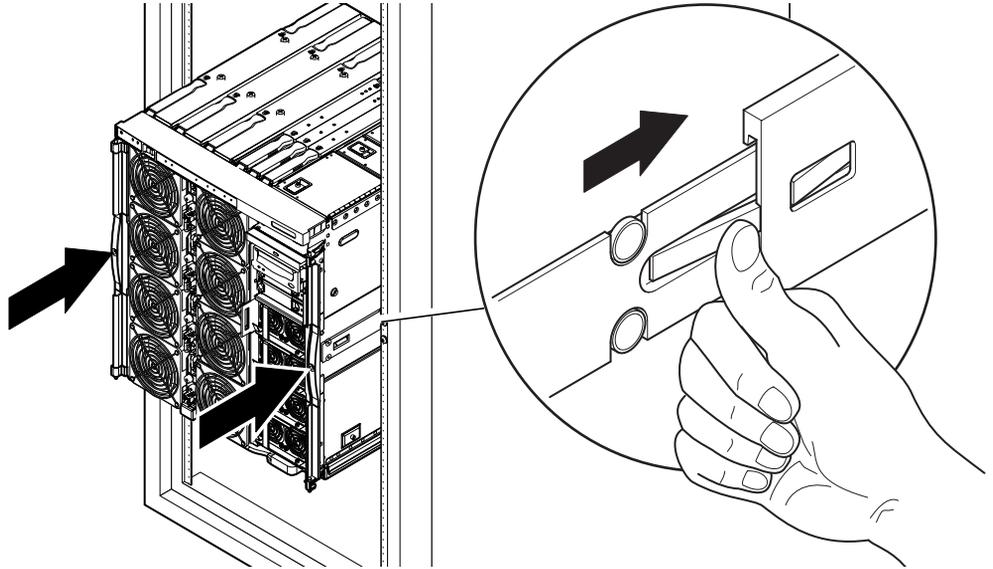

FIGURE 1-13 Pushing the Server Into the System Cabinet
11. Press the green latches on each rail and push the server into the cabinet (FIGURE 1-13).